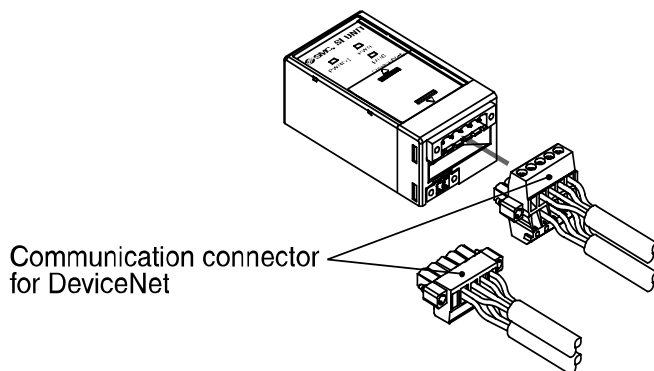

Fig.3
(3) Refer to Fig.3 about how to connect to the unit.